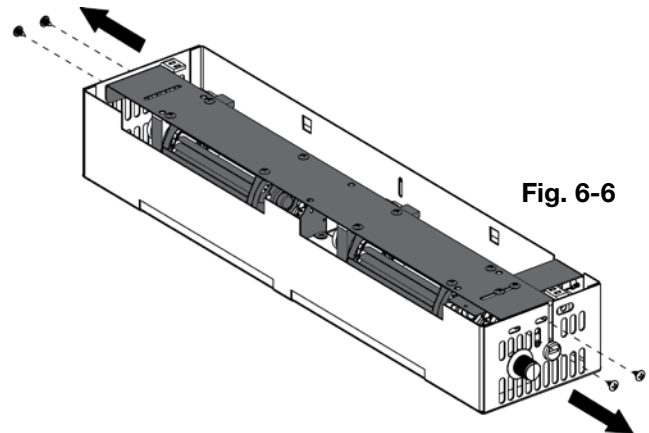

Fig. 6-6
- Remove the 4 screws securing the retainer to the blower housing (**Fig. 6-6**). Slide blowers (attached to retainer) out of the housing deflectors and lift them up. Set screws and blowers (attached to retainer) aside.